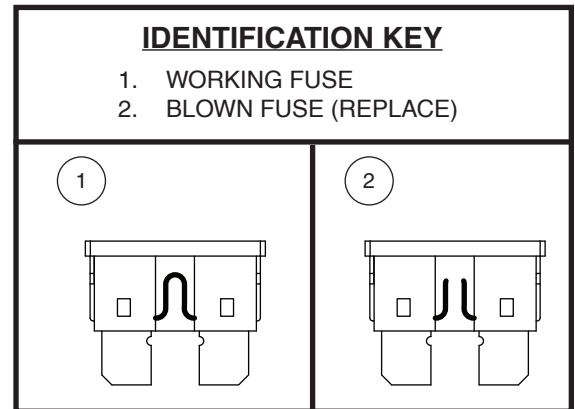

Figure 22. Fuse Replacement
2. Examine the fuse to be sure it is blown. See figure 22.